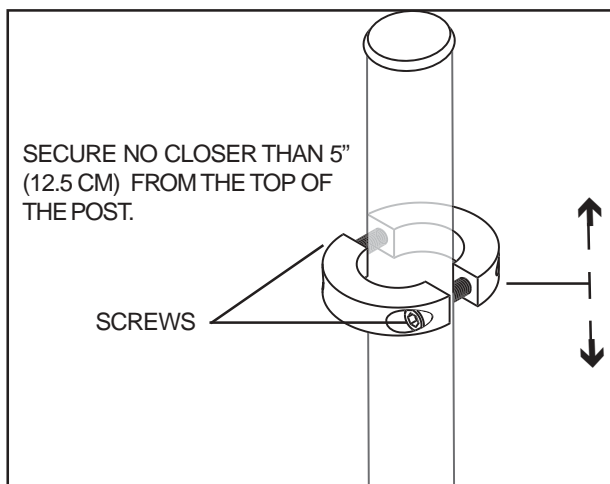

Figure 7. Split Ring Collar
The split ring collar is the height adjustment for the motor housing. See **figure 7**. The placement of the split ring collar determines the height of the motor housing.
1. Loosen the two screws on the collar. See **figure 7**.